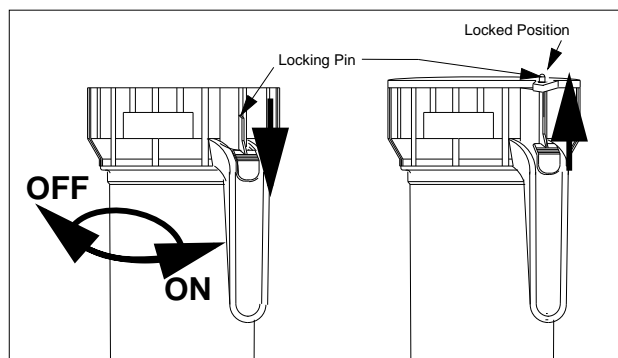

Figure 1: Locking Pin
5. Wet canister o-ring before installation. Install canister by depressing thumb lever and rotating 1/4 turn to the right, until the locking pin is in the appropriate position (see Figure 1).